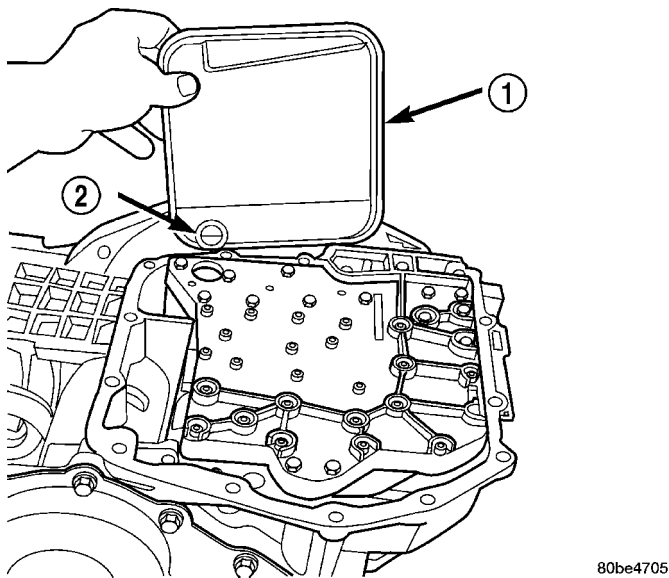

Fig. 18 Remove Filter and O-Ring
(6) Remove oil filter (Fig. 18).